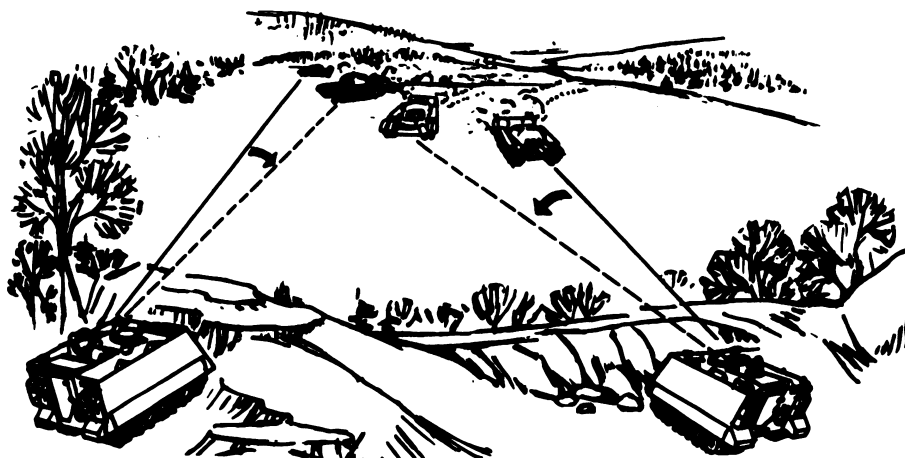

Figure 7
c. Depth Fire Pattern. The depth fire pattern is best used when targets are exposed in depth. One TOW squad engages the far targets; both squads then fire toward the center of the formation. Determination of which squad fires at what target will be made by the leader responsible for controlling the fires (fig. 7).